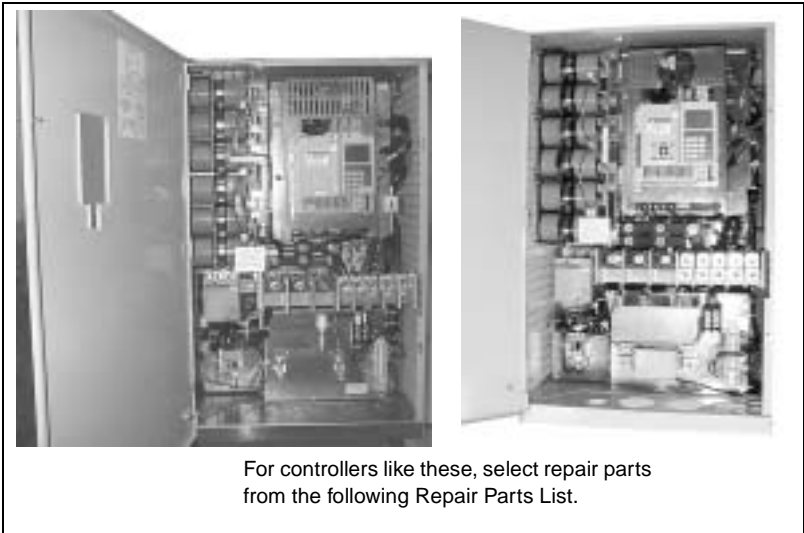

Figure 2: ATV66C10N4–C19N4: Shipped On or After June 1, 1998
- If the serial number has a “1” as the seventh digit, select repair parts from the repair parts list beginning on page 2 of this addendum. All drive controllers shipped on or after June 1, 1998 have a “1” as the seventh digit of the serial number. See Figure 2 on page 2 for illustrations of these controllers.